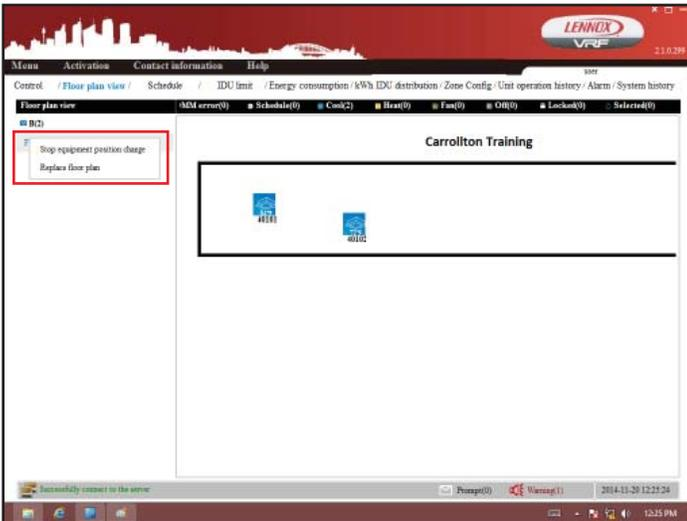

Figure 17. Import or Replace Floor Plan
Import or Replace a Floor Plan Image* (Figure 17)
1. Tap and hold zone name. A small menu displays the following options, Start equipment position change and Replace floor plan. See figure 17.